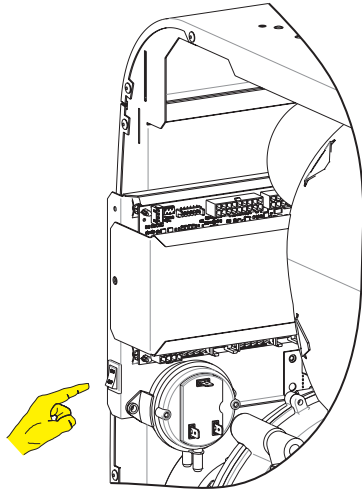

Figure 1
1. **Verify there is electrical power to the wall furnace.** Verify the Main Power Switch is turned on. See Figure 1.